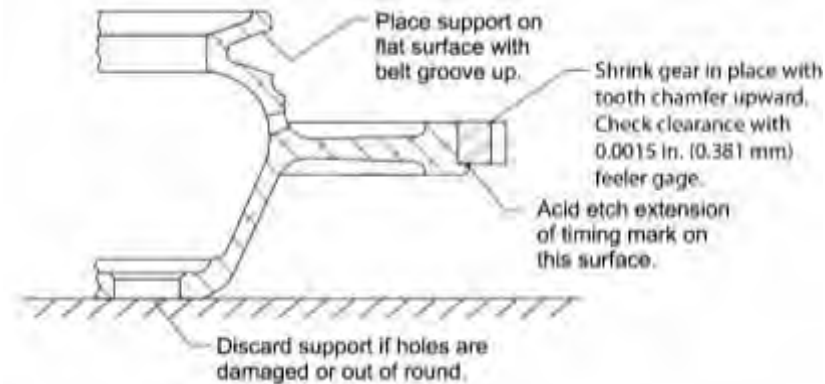

Figure 66
- (1) Put the starter ring gear support on a flat surface (Figure 66) with the alternator/generator belt groove upward.